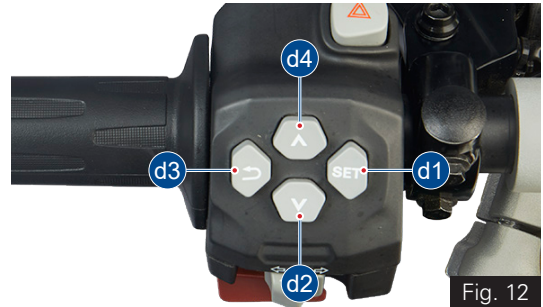

Fig. 12
D) Control switches (ref. Fig. 12)
(d1) SET button (ref. Fig. 12)
(d2)DOWN button (ref. Fig. 12)
(d3) RETURN button (ref. Fig. 12)
(d4) UP button (ref. Fig. 12)